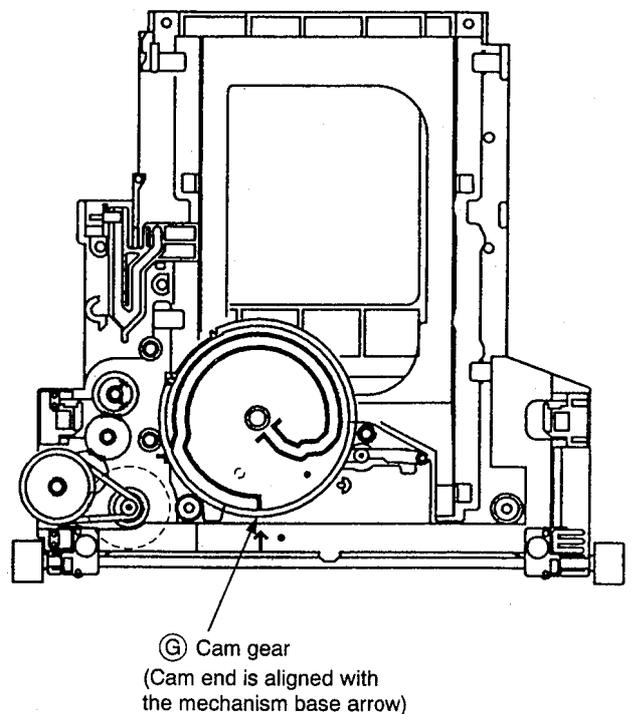

Fig. 1-9 Attach the cam gear
2. Insert the cam gear ⑤ upon directing the rib of the cam gear to the arrow mark of the mechanism base as shown in Fig. 1-9.